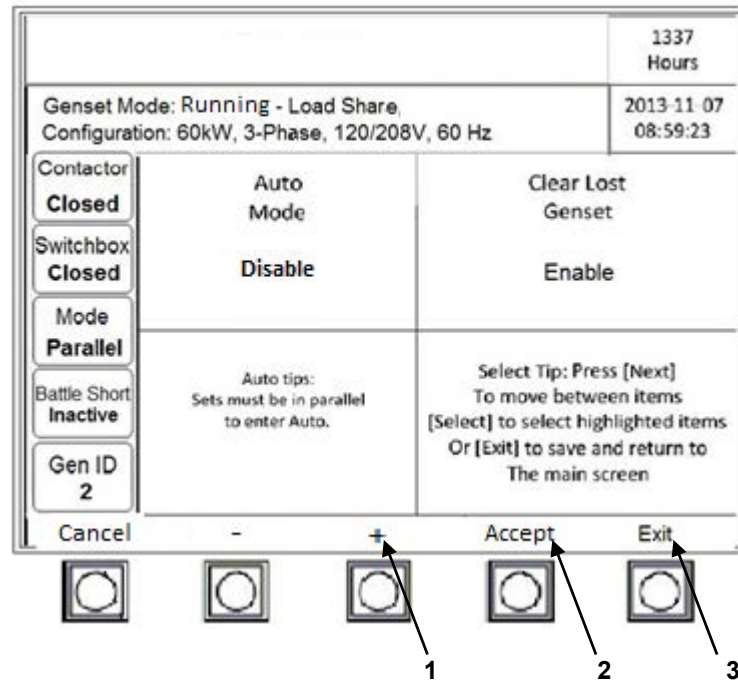

Figure 4-4. Auto Mode Select Screen
- (5) Press [+] (Figure 4-4, Item 1) to display [Enable].
- (6) Press [Accept] (Figure 4-4, item 2) to enable Auto Mode.
- (7) Press [Exit] (Figure 4-4, item 3) to save settings and return to [Auto Main Screen] screen.
- (8) Repeat steps (1) thru (7) for remaining networked generators until all generators are in Auto mode.